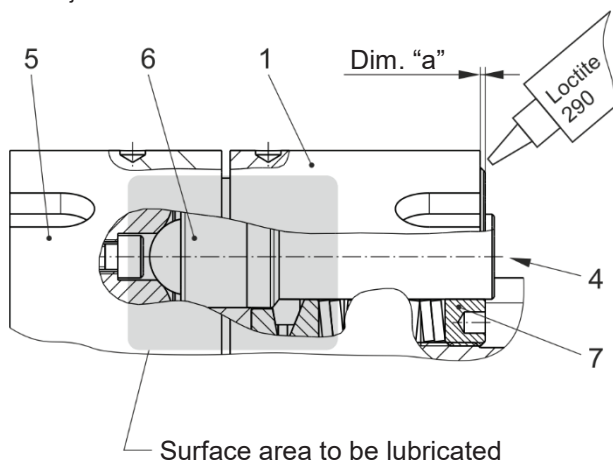

Fig. 8
3. Set all overload elements (4) by turning the adjusting nut (7) to the dimension "a" found in the Adjustment Diagram.
4. Apply Loctite 290 to the joint between the adjusting nut (7) and component (1) (Fig. 8).
See Fig. 8 for the surface area to be lubricated.